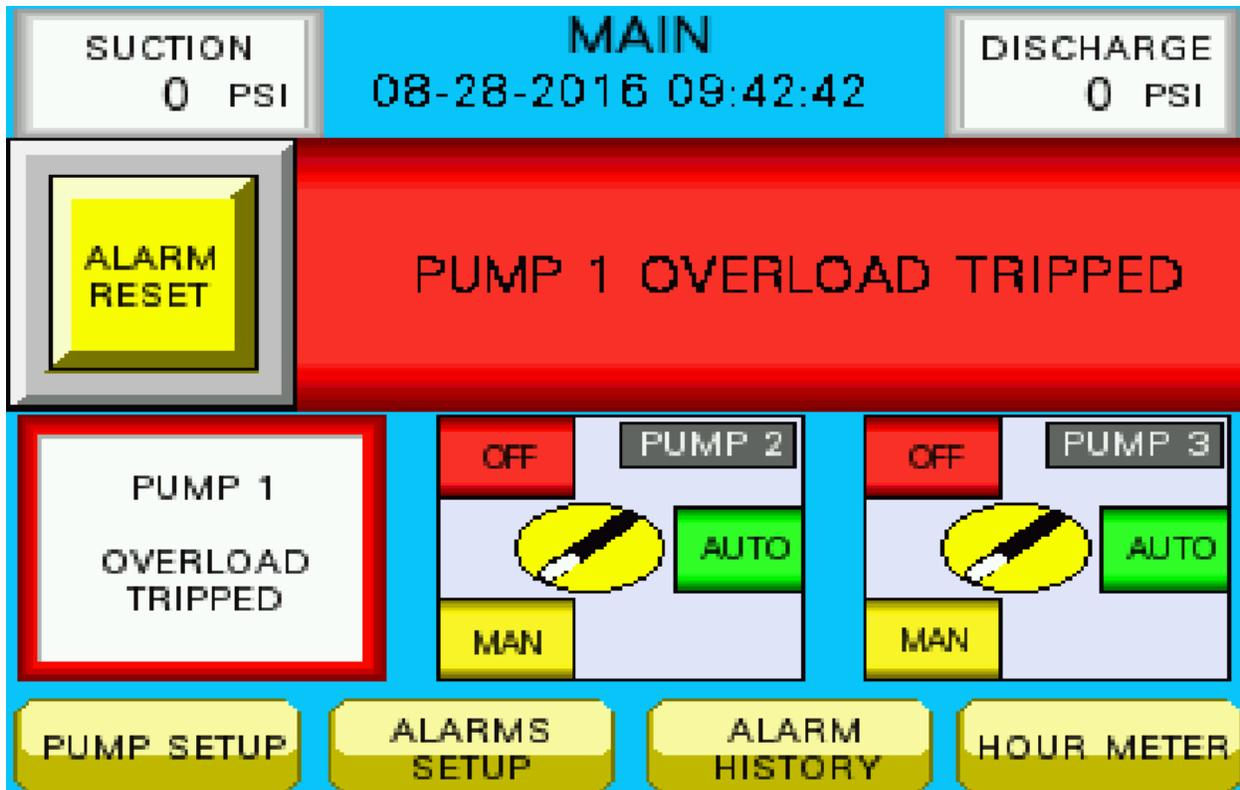

Figure 4.1
3. Once the screen is back to the MAIN screen you will see a red banner with the active alarm scrolling across it like figure 4.1 below. To the left of this banner is a flashing yellow and red ALARM RESET button. If the ALARM RESET button is pressed the system will go back into auto and try to run the pumps again.
This alarm occurs if the pumps overload trips. The other pumps in the system will continue to run. An error message that says overload tripped will be covering the pumps man/off/auto button that prevents the user from starting the pump with the overload tripped like figure 4.1 above. If this alarm is reset and the overload is still tripped the alarm banner will dissappear but the overload tripped error message will stay in place until the overload is reset. At that point the pump can be placed back into auto or manual.